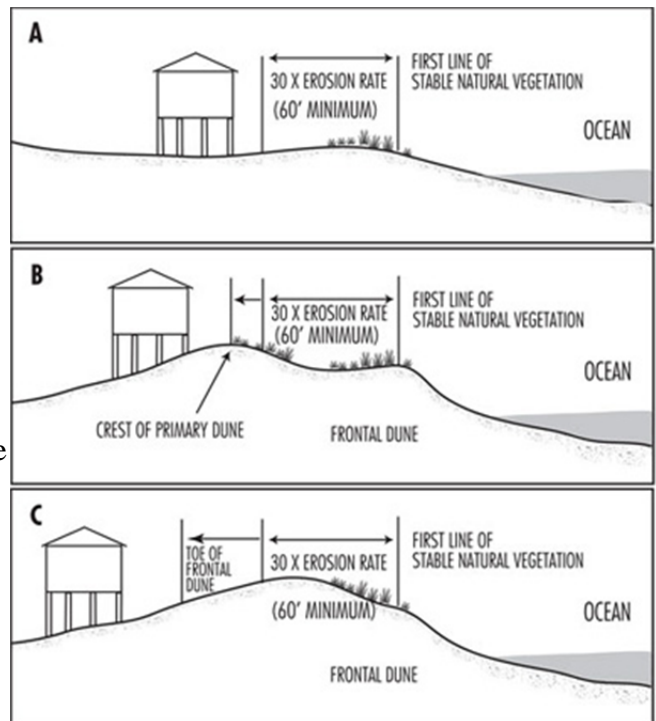

Figure 3.1
- Your project should be set as far back from the ocean as possible. At minimum, all buildings must be located behind the crest of the primary dune, the landward toe of the frontal dune or the erosion setback line - whichever is the farthest landward from the first line of stable natural vegetation (see Figure 3.1).